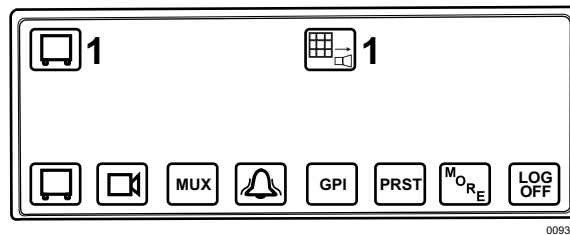

Figure 43. MUX Control Menu
1. Enter a MUX input number and press . Each MUX input is associated with a camera input. Figure 43 shows MUX 1 being controlled.